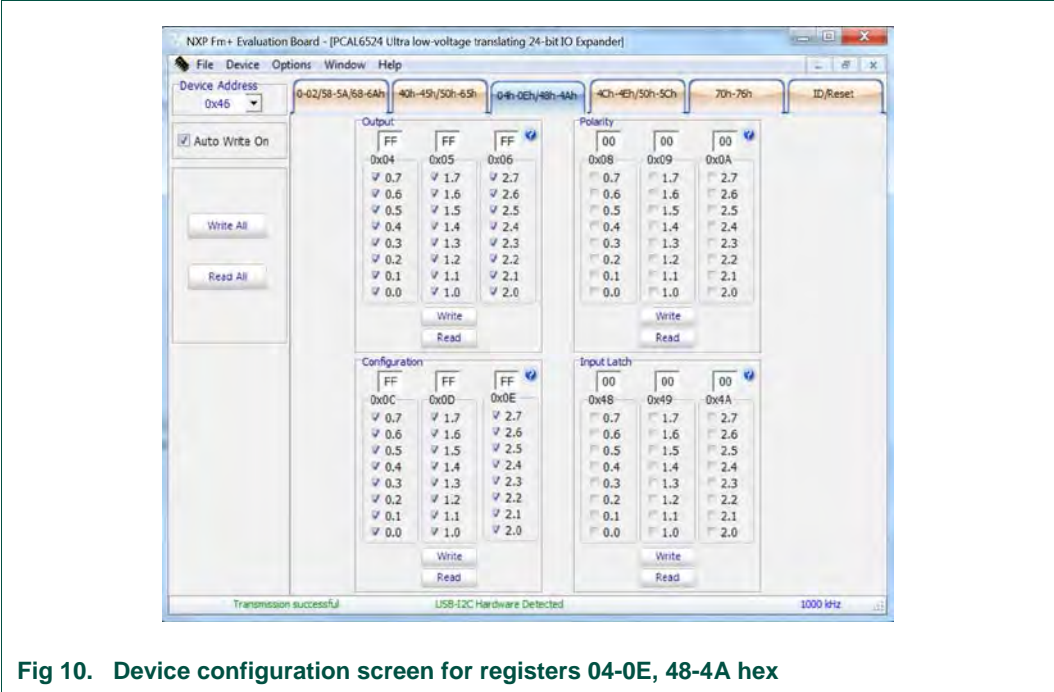

Fig 10. Device configuration screen for registers 04-0E, 48-4A hex
4. Third group registers read or write are shown in Fig 10.
| Fig 10. | Device configuration screen for registers 04-0E, 48-4A hex..... | 13 |